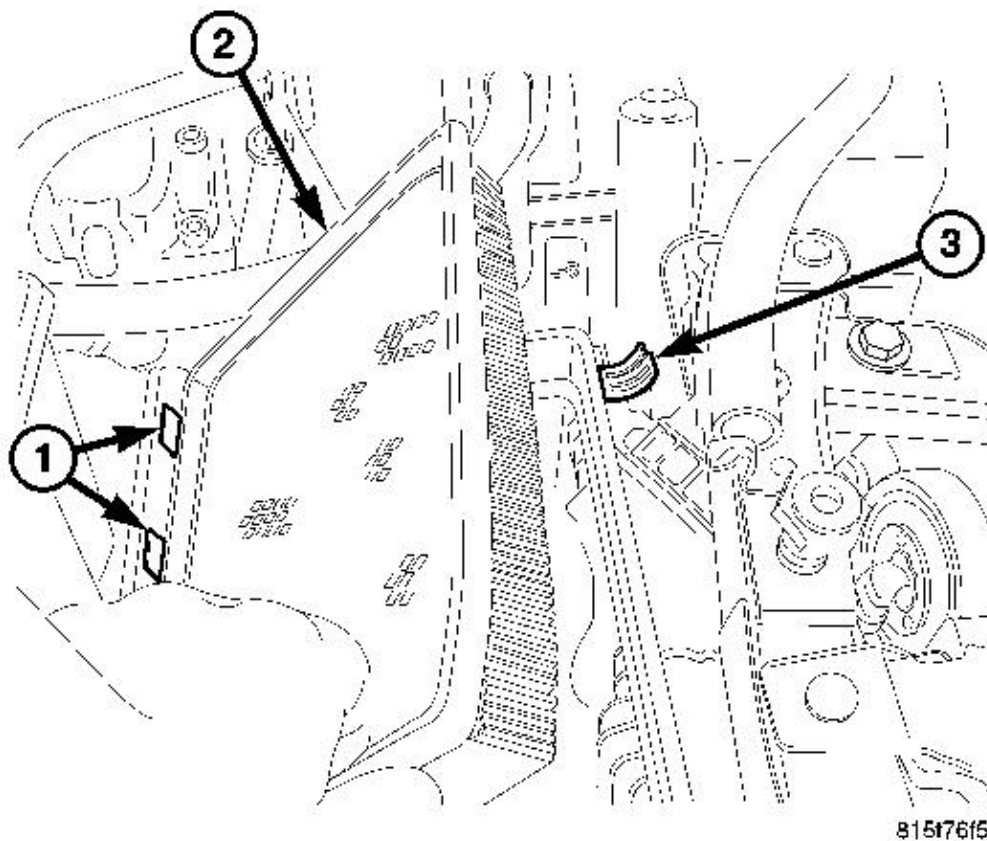

Fig. 53: Air Cleaner Element, Locating Tabs & Spring Clip
1. Install element into housing (2). See **Fig. 53**.
2. Position housing cover into rear housing locating tabs (1) and seat cover onto housing.